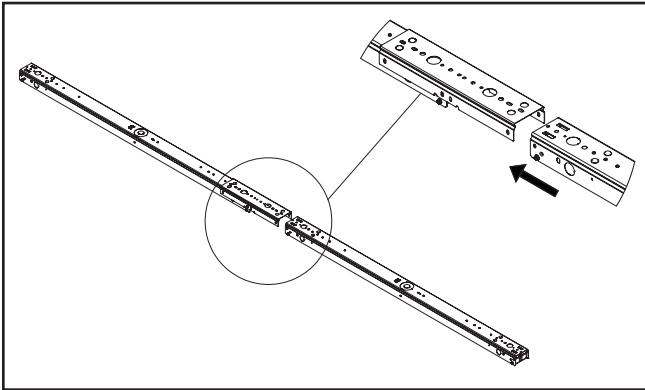

Figure 3.
3. Insert channel to the other end of Channel Joiner. (Figure 3.)